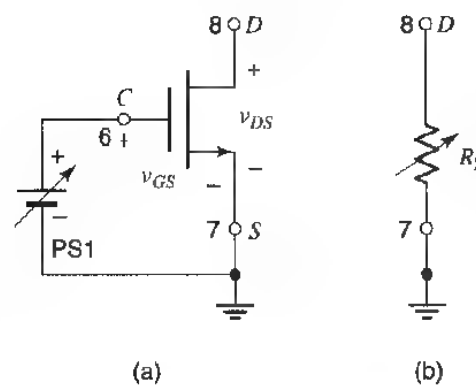
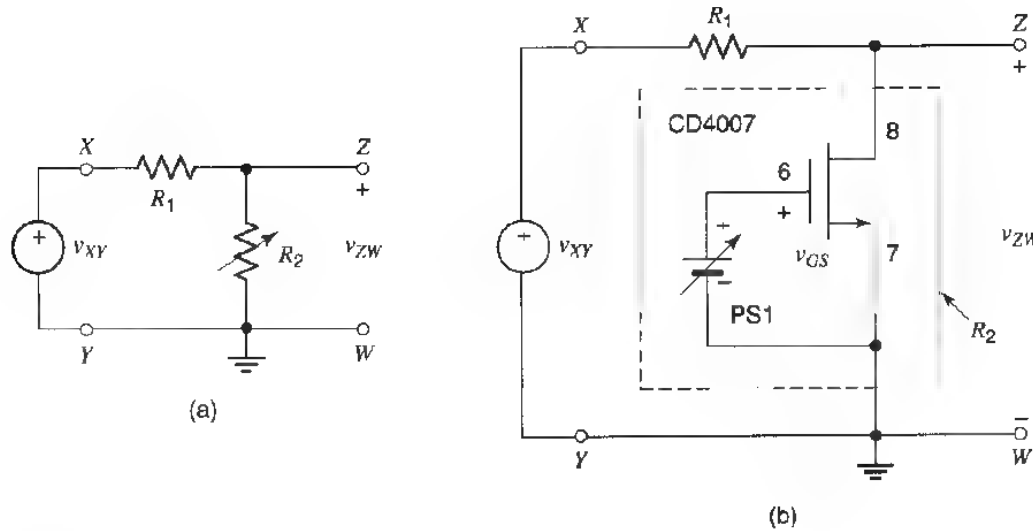

Fig. 4
Fig. 5
8. Form the circuit of Fig. 4(a), by *disconnecting* PS2 and the DMMs from the circuit of Fig. 2. Connect an ohmmeter between the drain and the source, and verify that the resistance across these two terminals can be varied by varying v_{GS} . Verify the values
From the results so far, it is evident that the circuit of Fig. 4(a) is a *voltage-controlled resistor*; that is, it is equivalent to Fig. 4(b), where the value of R_2 depends on v_{GS} . The arrow through the resistor indicates that its resistance can be varied. (Keep in mind that this resistor is linear provided that the drain-source voltage is kept sufficiently small; otherwise, its current will not be proportional to the voltage across it.)
9. You can use the fact that the MOSFET can be used as a voltage controlled resistor, to make a voltage-controlled potentiometer. Consider the voltage divider shown in Fig. 5(a). R_1 is a conventional, fixed resistor, whereas R_2 is a variable resistor. If a voltage v_{XY} is applied to the circuit as shown, the output voltage v_{ZW} will be
In the circuit of Fig. 5(a), R_2 can be replaced by the MOSFET, as suggested by the equivalence of the circuits in Figs. 4(a) and 4(b). Thus, the circuit of Fig. 5(b) results (*do not build this circuit yet*). Now, one can vary the division ratio $R_2/(R_1 + R_2)$ by varying R_2 through v_{GS} .
10. Now build the circuit of Fig. 5(b). Keep in mind that the MOSFET behaves as a linear resistor *only* if the voltage between its drain and source is sufficiently small; thus, *avoid* large v_{ZW} values. Do *not* use an ohmmeter in this step. Verify that the voltage division ratio, $v_{ZW}/v_{X1} = R_2/(R_1 + R_2)$, can be varied in the range expected from step 9 by varying v_{GS} .
11. From the results obtained so far, you can see that if v_{GS} is sufficiently small, the MOSFET behaves as an open circuit between the drain and the source; thus, the drain-source path in Fig. 4 acts as an open switch in this case. Also, you can see that with v_{GS} large, the MOSFET presents a rather small resistance between the source and the drain (always assuming that the drain-source voltage is small). If that resistance were zero, the MOSFET would behave as a closed ideal switch in this case; since the resistance is not zero, we can say that it behaves as a closed nonideal switch (essentially, it behaves as a closed ideal switch with some resistance in series with it).